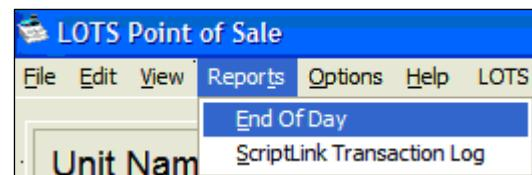

Figure 99
1. Navigate from the LOTS Start Menu → Sales → Reports drop down menu → End of Day (as shown in Figure 99).